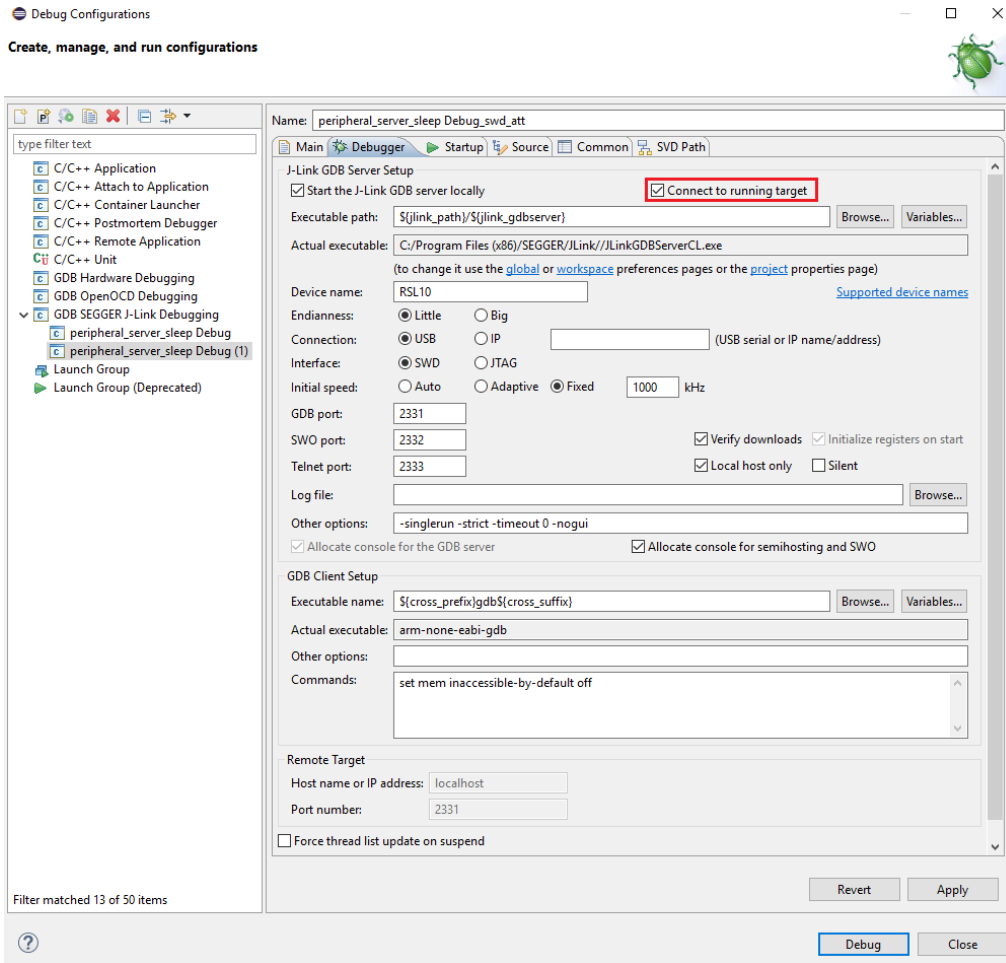
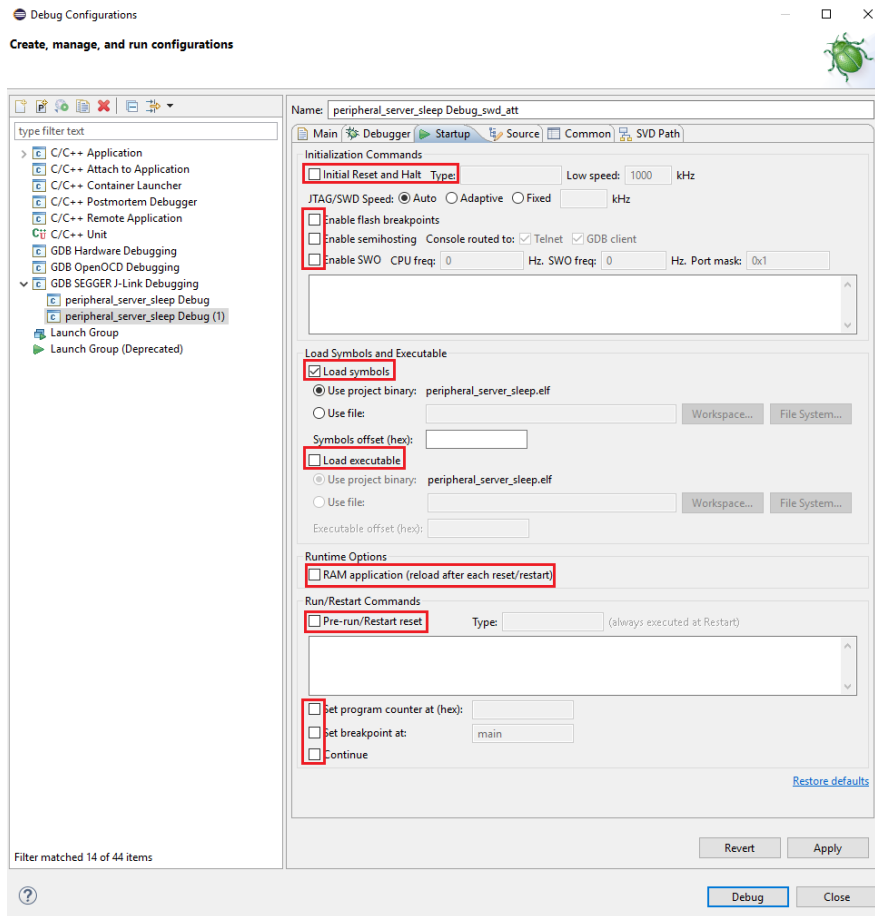

Figure 48. Debugger Tab: Debug Session that Connects to the Running Target
Figure 49. Startup Tab: Debug Session that Connects to the Running Target
- ii. Adjust the displayed values for your configuration then click on **Apply** (see Figure 48, and Figure 49 on page 41).